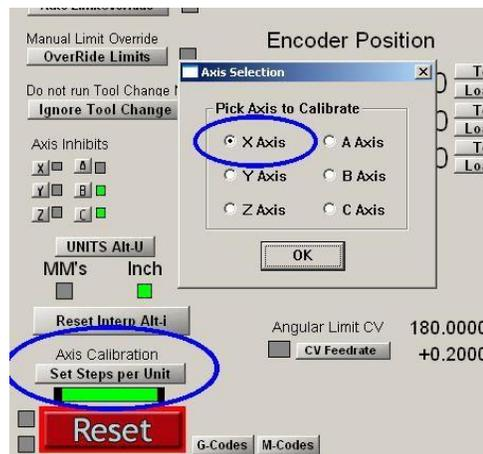

Figure 5-29 Automatic Setting of Steps per Unit
- 5) Figure 5-29 shows the *Set Steps per Unit* button on the **Settings Alt6** screen to initiate the automatic settings process. You will be prompted for the axis that you want to calibrate. Select an axis on the **Pick Axis to Calibrate** pop-up menu and click OK.